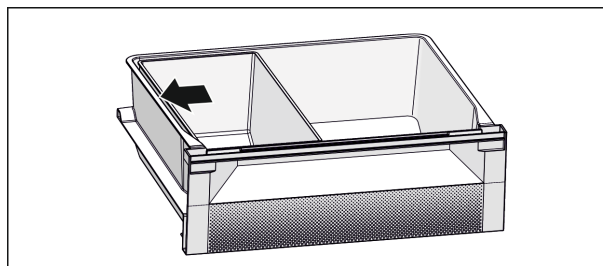

Fig. 6
- ▶ Position Fish & Seafood tray. The position shown gives you an optimal cooling function (see Fig. 6).